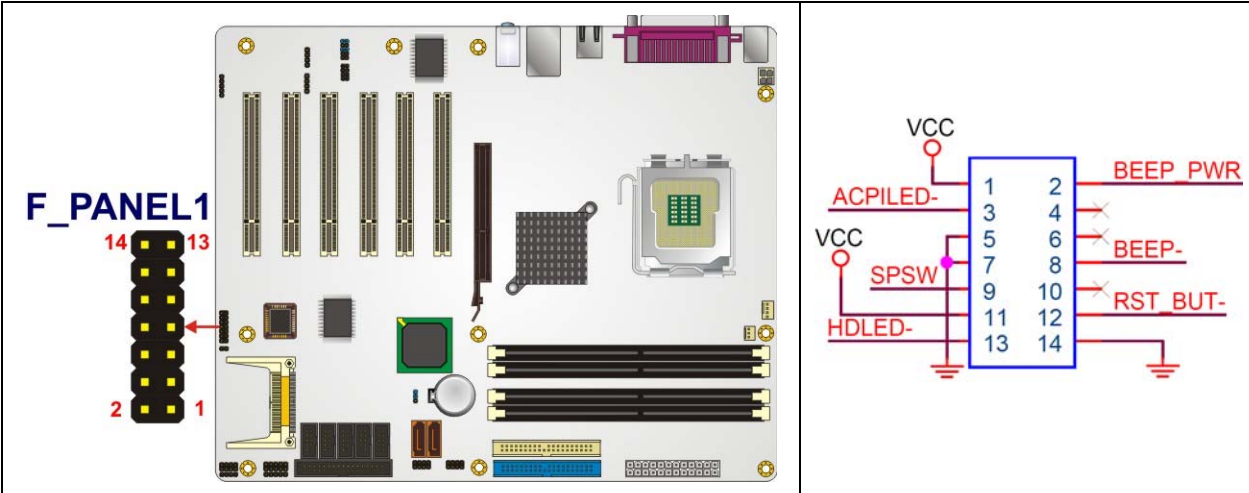

Figure 4-13: Front Panel Connector Pinout Locations
- CN Location:** See Figure 4-13